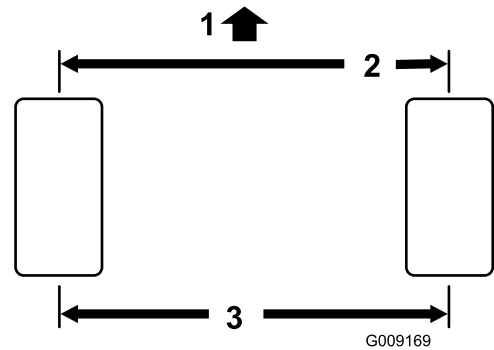

Figure 48
2. Measure the center-to-center distance (at axle height) at the front and rear of the steering tires (Figure 48).